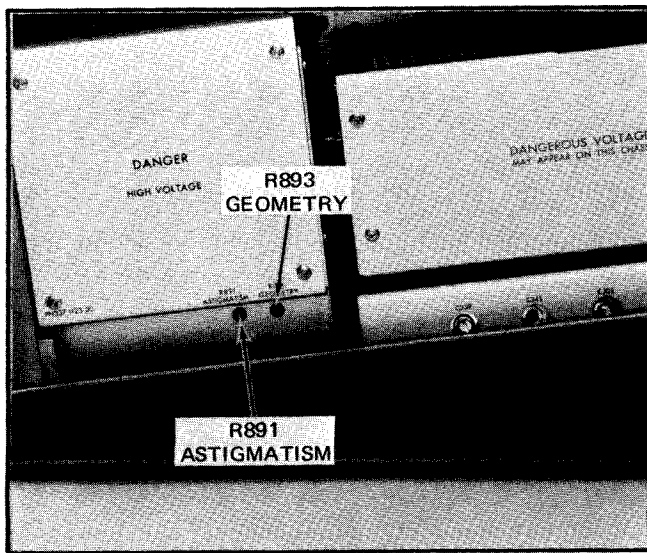

Fig. 5-4. Location of adjustments in step 4.
c. ADJUST—R891, ASTIGMATISM adjustment on the right side of the instrument (see Fig. 5-4) if the spot is not circular.
h. ADJUST—R897, TRACE ROTATION adjustment, (see Fig. 5-4) if the trace is not parallel.
j. CHECK FOR—Trace parallel with the vertical center-line (see Fig. 5-4).
n. ADJUST—R893, GEOMETRY adjustment (see Fig. 5-4) for minimum bowing of trace.